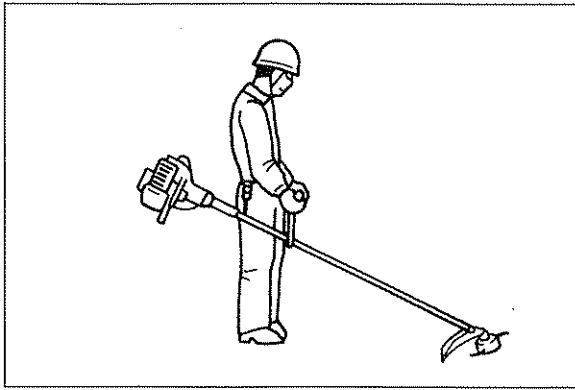

Fig. 21
1. Adjust the strap length so that Cutter Blade or nylon cutting head will be kept parallel with the ground. (Fig. 21)